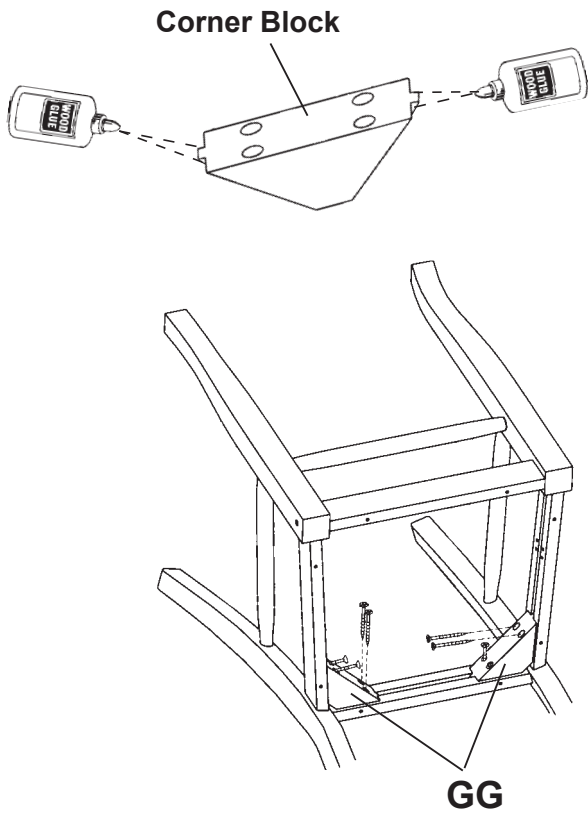

FIG. 3
- 3) Before attaching corner blocks, verify that the side aprons are seated snugly against the front and back legs. Spread a light layer of glue in the upper and lower notches of a Back Corner Block (GG) and insert in the grooves in the back and side aprons. Fasten in place with four #8 x 1" Pan Head Screws (MM) through the predrilled holes. Repeat with the other back corner block. See FIGURE 3. Spread a light layer of glue in both notches in a Front Corner Block (HH) and insert in the grooves in the side and front aprons. Fasten in place with #8 x 1" Pan Head Screws (MM). Repeat for the other front corner block. See FIGURE 3A.